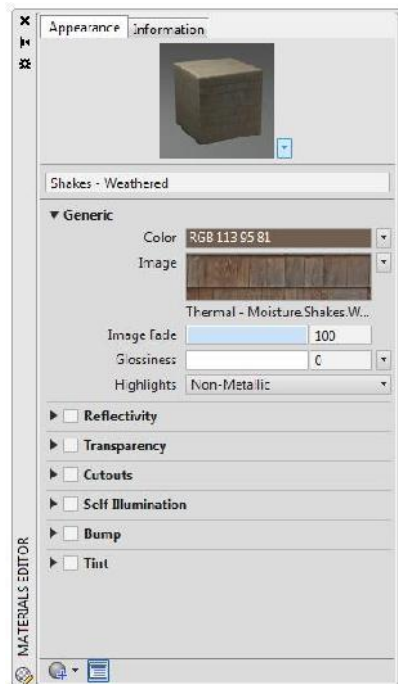

FIGURE 17.28: The Materials Editor palette with the Shakes Weathered material selected
The Materials Editor palette opens to display details about the Shakes - Weathered material (see Figure 17.28).
4. From the Materials Editor, click the photographic image found under the Generic group (see Figure 17.28).